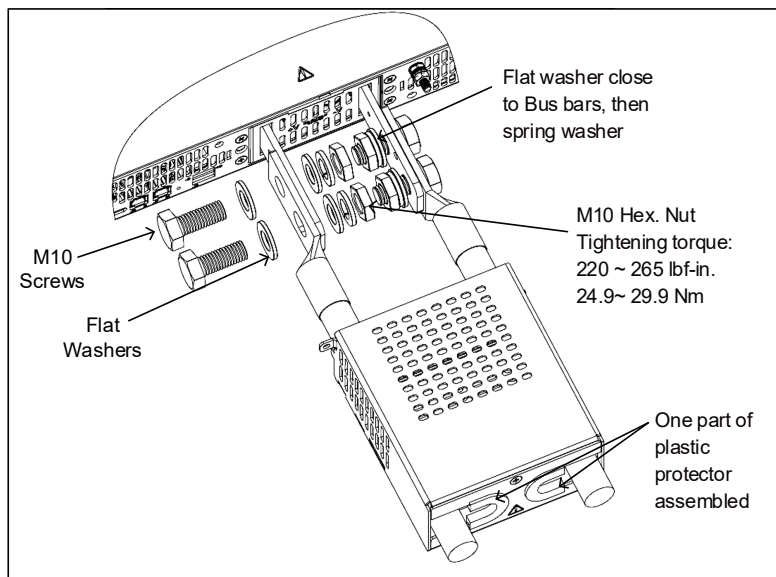

Figure 4-17: Wires Assembly
6. Fix the wires to the bus bars as shown in Figure 4-17. Close the output protection assembly with one part of the plastic protector assembled on each side, as shown in Figure 4-17.